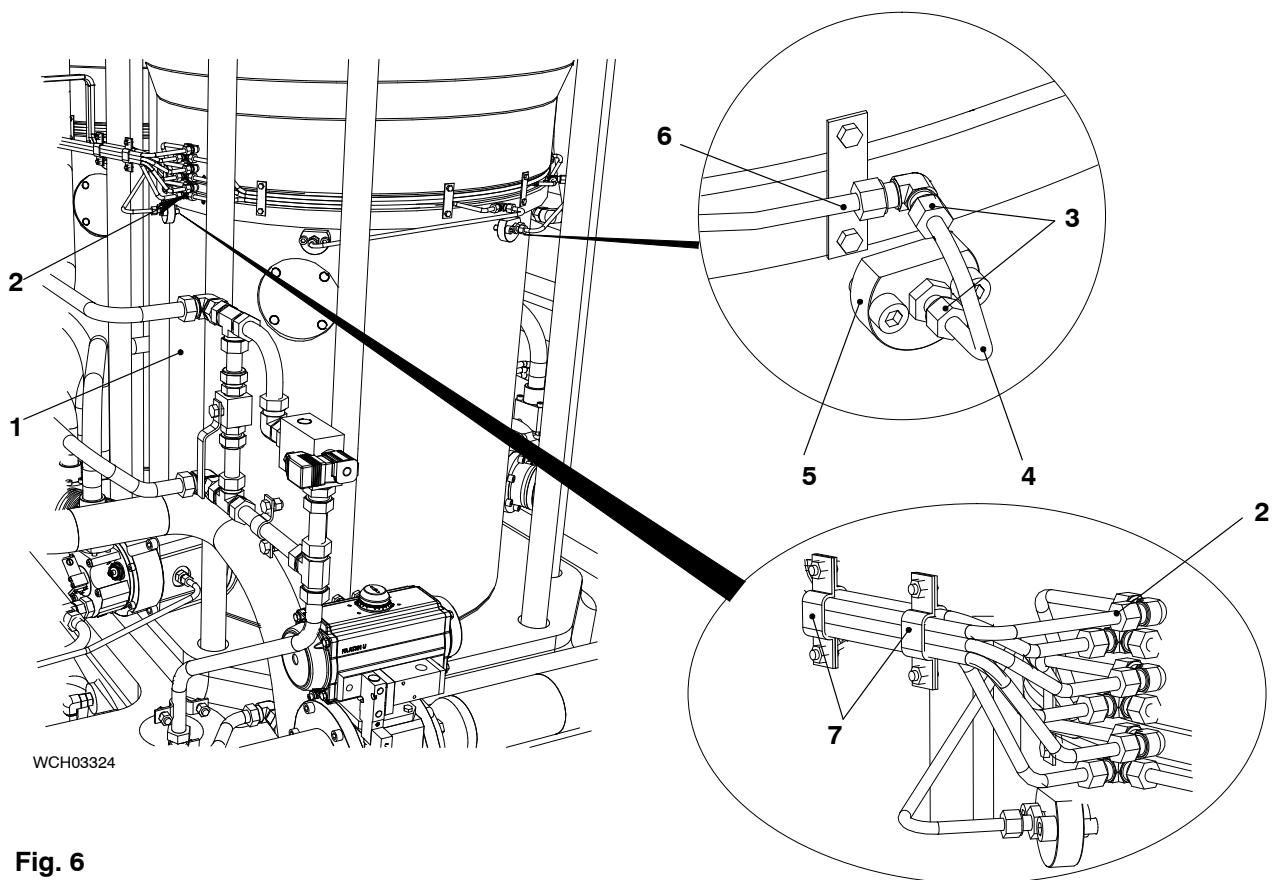

Fig. 6
- 6) Remove the plugs from the oil pipe (4, Fig. 6).
- 7) Connect the pipe (4) to the lubricating quill (5) and the applicable pipe (6).
- 8) Tighten the nuts of the screw-in unions (3).
- a) Remove the protection from the six pipes (2).
- b) Connect the six pipes (2).
- c) If necessary, attach the two holders (7) to the six pipes (2).
- 10) Bleed the oil pipes (2) refer to 7218, paragraph 3.2.